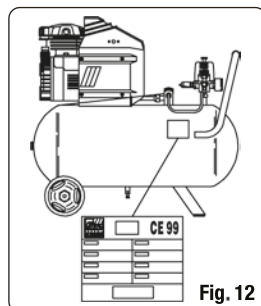

Fig. 12
Check that the mains voltage corresponds to that indicated on the electrical data plate (fig. 12), the permitted tolerance range must be within $\pm 5\%$. Turn or press, according to the type of pressure switch mounted on the machine, the button located at the top to position "0". Connect the plug to the socket (fig. 11) and run the compressor by turning the pressure switch to position "I" (ON). The operation of the compressor is completely automatic, controlled by the pressure switch which interrupts its operation when the pressure in the tank reaches
- That the main voltage corresponds to the nominal characteristics (fig. 12).